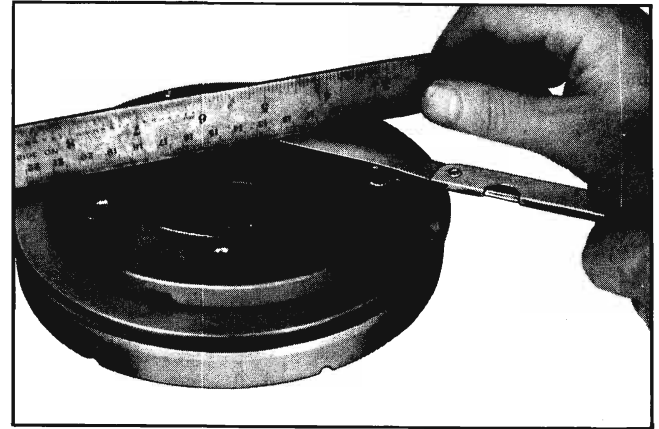

Fig. 7A-48 Checking Gear End Clearance
2. Install new bushing as illustrated in Fig. 7A-49, using tool J-8360-4.